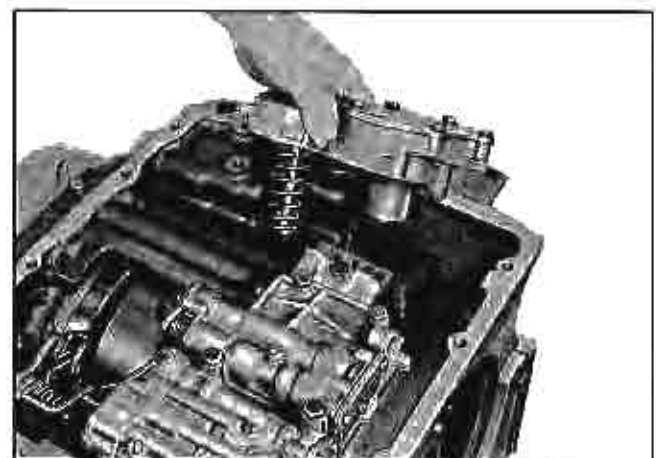

Fig. 169 Installing Servo and Accumulator Assembly
4. Lay the servo and accumulator assembly with servo release spring in position (Fig. 169) and attach to the case with two bolts. Do not tighten the long bolt which also retains the pump intake pipe clip.